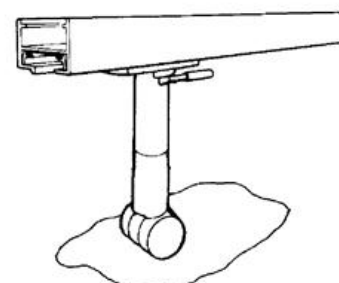

FIG. 2
3. To attach FITTING, insert into LYTESPAN TRACK. Turn LEVER 90° to make mechanical and electrical connection. See Fig. 2.